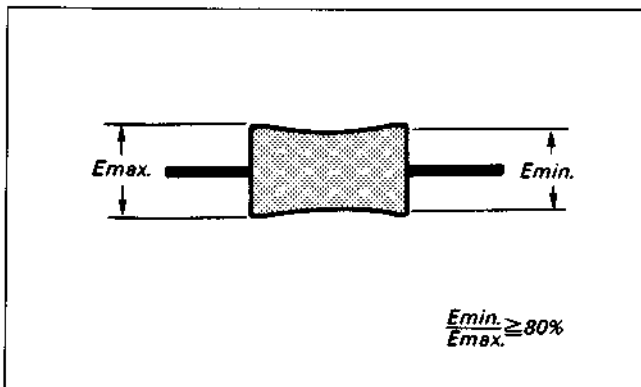

Fig. 7-80.
- 3) Confirm that the RF waveform amplitude minimum value (E_{min}) at this time is more than 80% of maximum value (E_{max}). (See Fig. 7-80.)